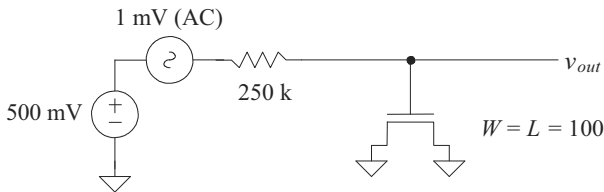

Figure 6.20 Circuit used in Problem 6.1.
- 6.1** Plot the magnitude and phase of v_{out} (AC) in the following circuit, Fig. 6.20. Assume that the MOSFET was fabricated using the 50 nm process (see Table 5.1) and is operating in strong inversion. Verify your answer with SPICE.